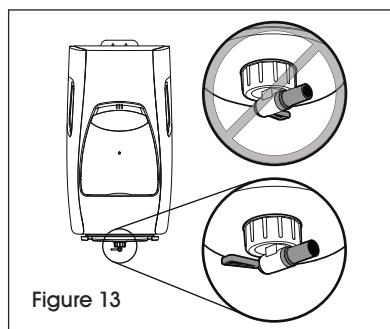

Figure 13
- Make sure the drain spout is in its closed (left) position. (See Figure 13)